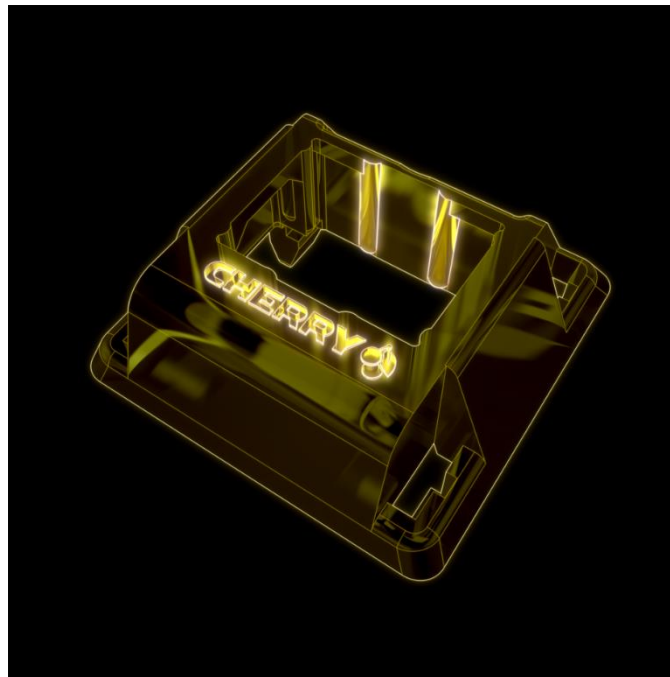

Figure 7: Top housing changes to the nameplate orientation and guider rails as highlighted in Cherry's MX2A announcement page.
-Flipping of the ‘Cherry’ stylized logo nameplate to an ‘upside down’ configuration as can be seen in Figure 7, above.